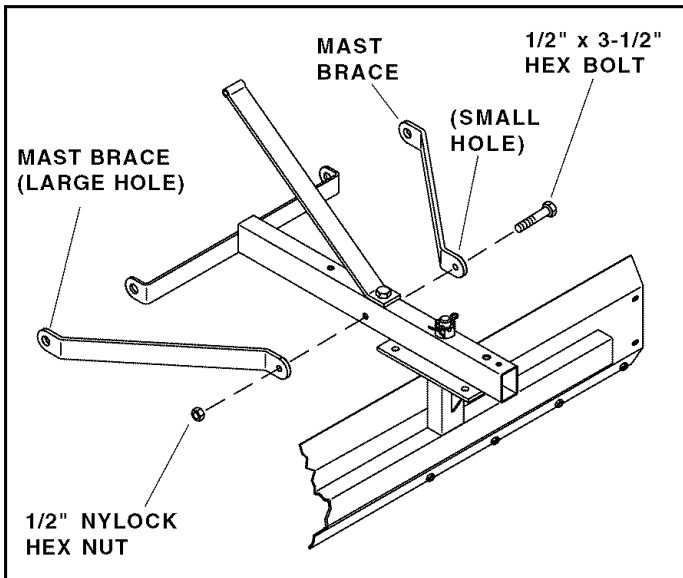

FIGURE 5
- Attach two mast braces to the sides of the mast assembly using a 1/2" x 3-1/2" hex bolt and 1/2" Nylock hex nut. Use the end of each brace with the smallest hole. **Do not tighten yet.** See figure 5.